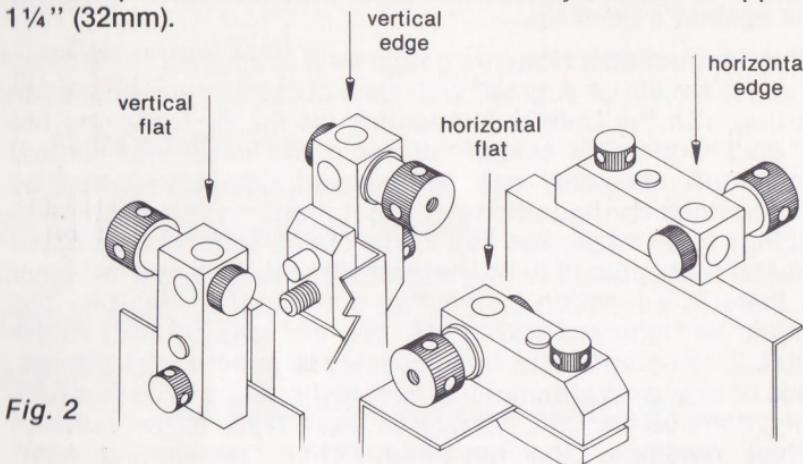

Fig. 2
3. Operating Instructions: Note the gauge as it is shipped in its case, refer to Fig. 1. Familiarize yourself with each of the components in the case, starting with the Universal mounting clamp. By loosening the large (1/2" dia.) knob on the side of the clamp, the horizontal/vertical positioning shaft assembly can be removed. The clamp can be mounted to various configurations of sheet metal on the machine to allow readings to be made, See Fig. 2. The clamp should be mounted to sheet metal that appears to be the most rigid, usually near a corner or where there is a junction connecting it to another member. The clamp should be tightened with a 1/8" dia. pin to grip firmly to the sheet metal. It sometimes may be necessary to remove wire clamps, tape guides or similar obstructions to enable the clamp to be positioned properly; don't be alarmed, removal of these types of components won't affect readings. The horizontal/vertical positioning shaft assembly can be clamped from any of three directions into the universal mounting clamp thus enabling the longer (horizontal) shaft to be in a horizontal direction. See Fig. 3.